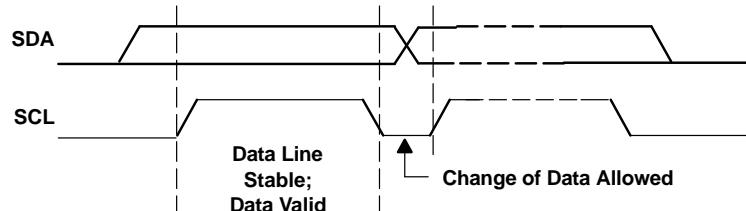
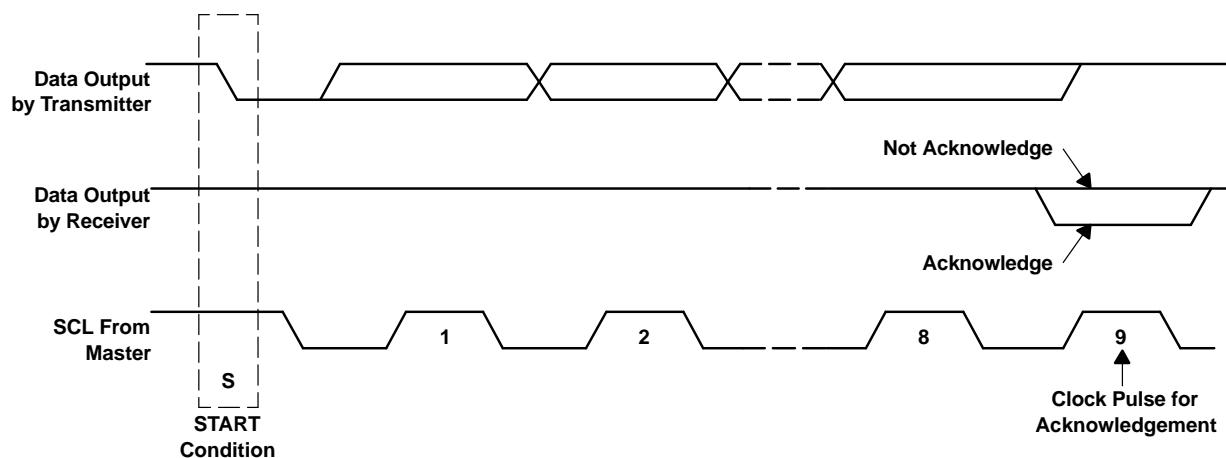

Figure 30. Bit Transfer on the I²C Bus
Figure 31. Acknowledge on the I²C Bus
- The master then generates the SCL pulses, and transmits the 7-bit address and the *read/write direction bit* R/W on the SDA line. During all transmissions, the master ensures that data is *valid*. A *valid data* condition requires the SDA line to be stable during the entire high period of the clock pulse (see Figure 30). All devices recognize the address sent by the master and compare it to their internal fixed addresses. Only the slave device with a matching address generates an *acknowledge* (see Figure 31) by pulling the SDA line low during the entire high period of the ninth SCL cycle. Upon detecting this acknowledge, the master knows that communication link with a slave has been established.